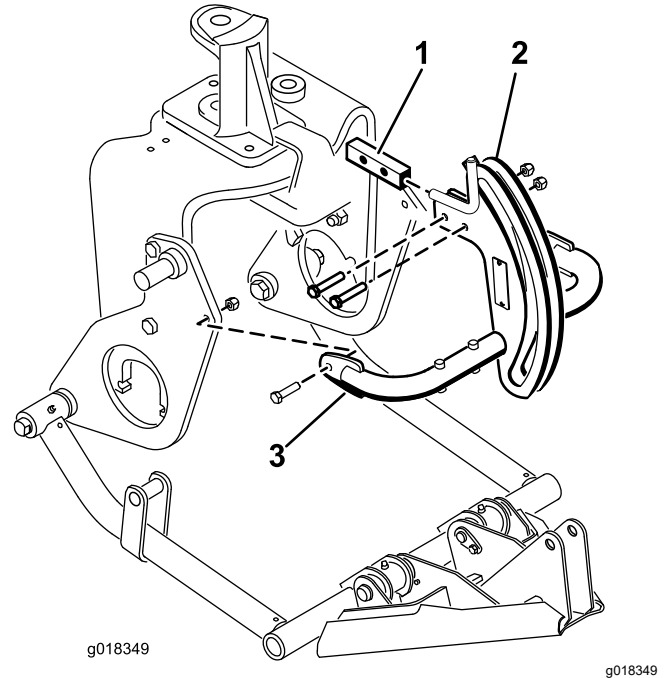

Figure 14
- Mount the top of the hitch frame to the hitch frame bracket with 2 bolts (3/8 x 2 inches) and nuts (Figure 14).
- Mount the hitch frame tubes to the plow plates with bolts (3/8 x 1-1/2 inches) and nuts (Figure 14), and tighten the fasteners.